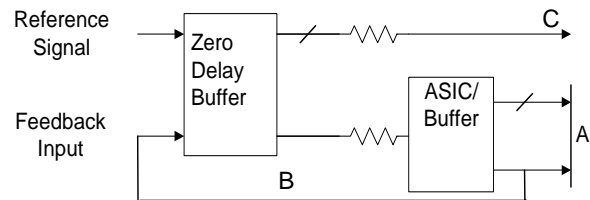

Figure 1. Output Buffer in Feedback Path
Referring to *Figure 1*, if the traces between the ASIC/buffer and the destination of the clock signal(s) (A) are equal in length to the trace between the buffer and the FBIN pin (B), the signals at the destination(s) device (C) will be driven high at the same time the Reference clock provided to the ZDB goes high. Synchronizing the other outputs of the ZDB to the outputs from the ASIC/Buffer is more complex however, as any propagation delay in the ASIC/Buffer must be accounted for.